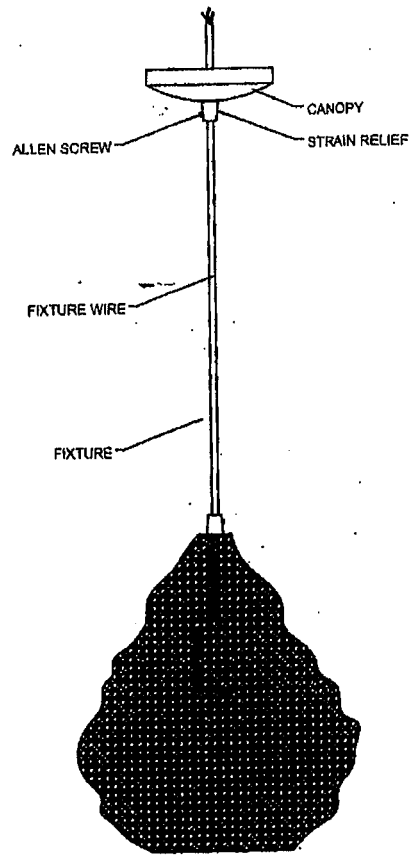

FIGURE-02
3. Determine the desired fixture height and place the canopy to the fixture wire then secure it to the strain relief using the allen screw. (See Figure -02)